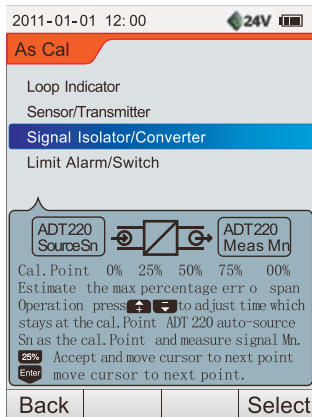

Figure 9.35
2. Press **AsCal** key to enter As Cal tool list, as shown in Figure 9.35.